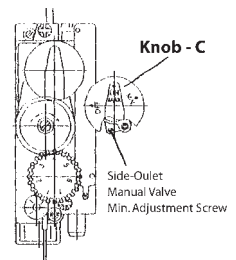

Figure 2
- h. Combination control is shipped with the side-outlet manual valve set at maximum flow. If adjustment is required perform step g., and then set the manual valve knob (knob-C, Figure 2) to the minimum position. Turn side-outlet manual valve minimum adjustment screw (Figure 2) clockwise to decrease flow.